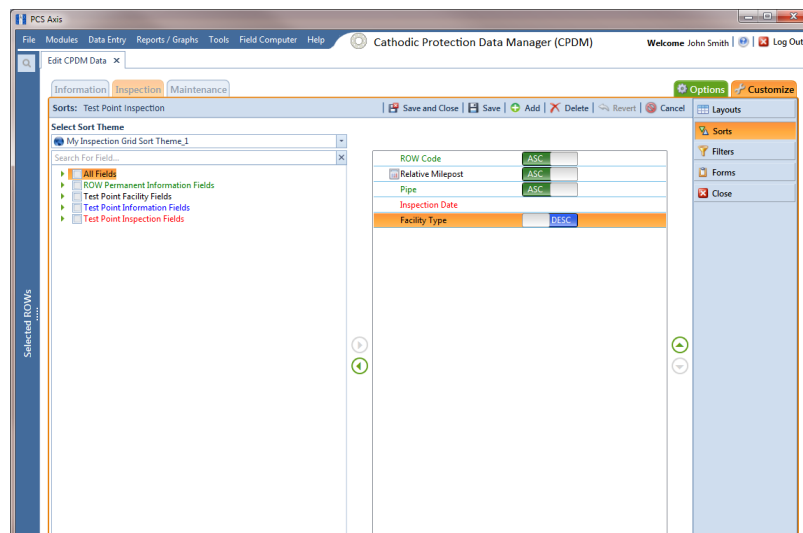

Figure 7-110. Sorts
- 5 Click the **Customize** tab **Customize** then the **Sorts** button **Sorts** to open the *Sorts* page (Figure 7-110).